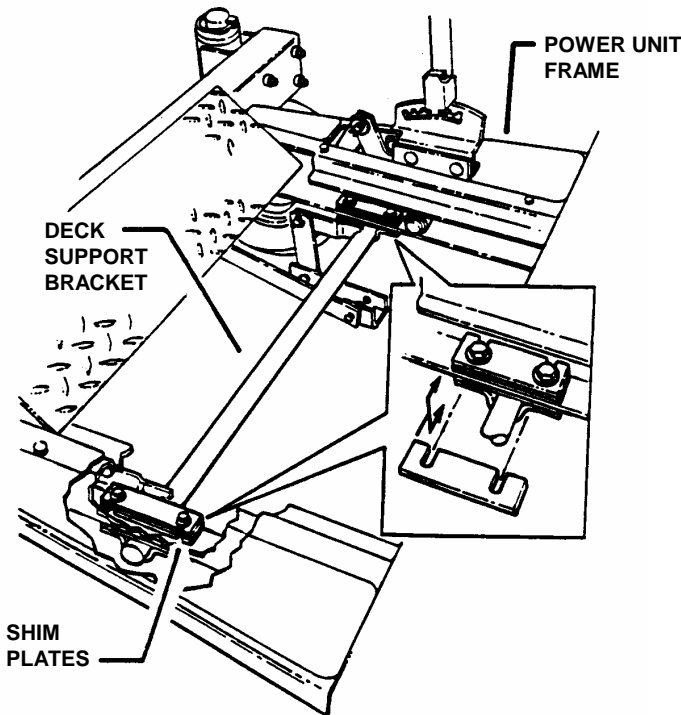

FIGURE 5.2
6. Loosen the nuts and bolts that secure both front and rear deck support brackets on the high side of deck. Located above each support bracket, on the top part of the power unit frame, are three shim plates. Remove the shim plates on both of the front and rear lift arms and position plates between the support bracket and the frame of the power unit. Inserting the shim plates in this procedure will lower that side of the deck. Retighten the support bracket nuts and bolts to 20 to 30 ft. lbs. of torque. See Figure 5.2.